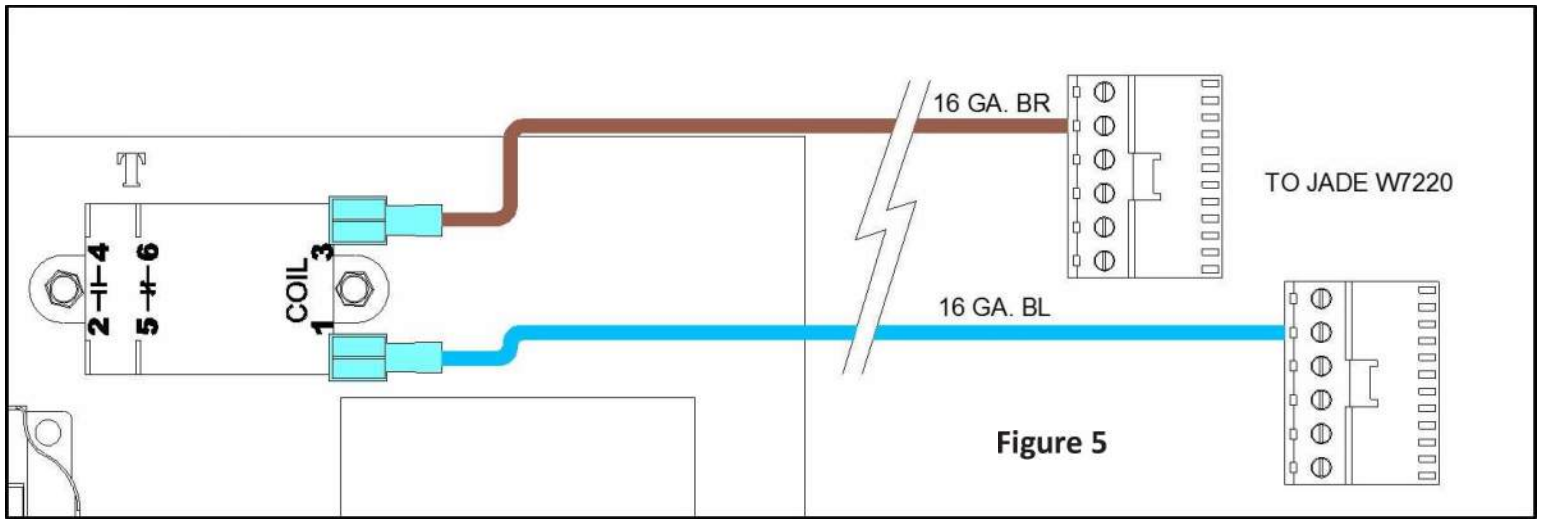

Figure 5
12. Attach the low voltage wires to 'EXH1' and 'C' of the 7220 Jade control module on the economizer, using the provided connectors per Figures 5 & 6.
NOTE: For a DDC Controller application, remove the control harness spade terminals from the relay coil in Figure 5, and discard the harness & Jade side connectors. Connect the DDC Economizer 'Power Exhaust' control wires to the same terminals on this relay.
21. If the blower motors did not start up, verify 24VAC at the coil of the control box relay, terminals 1 and 3, per Figure 5. If there is no 24VAC, go the next step.